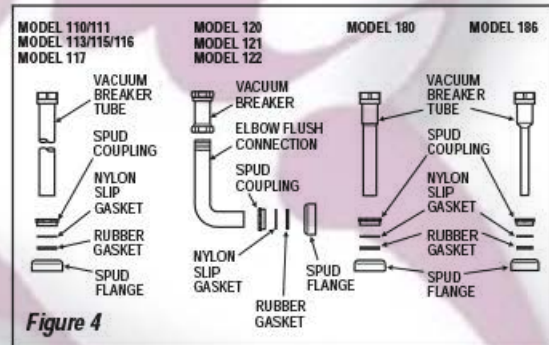

Figure 4
Step 2 - Install Vacuum Breaker Flush Connection (Figure 4)